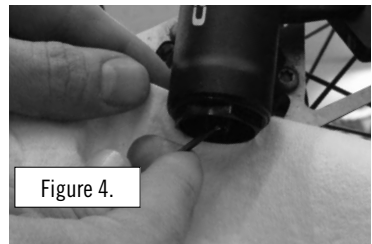

Figure 4.
3. Cover the brake disc with a shop towel to prevent the small amount of fork fluid that might be expelled from contaminating the brake disc. Press and hold the Schrader valve open to release all air pressure. Figure 4.